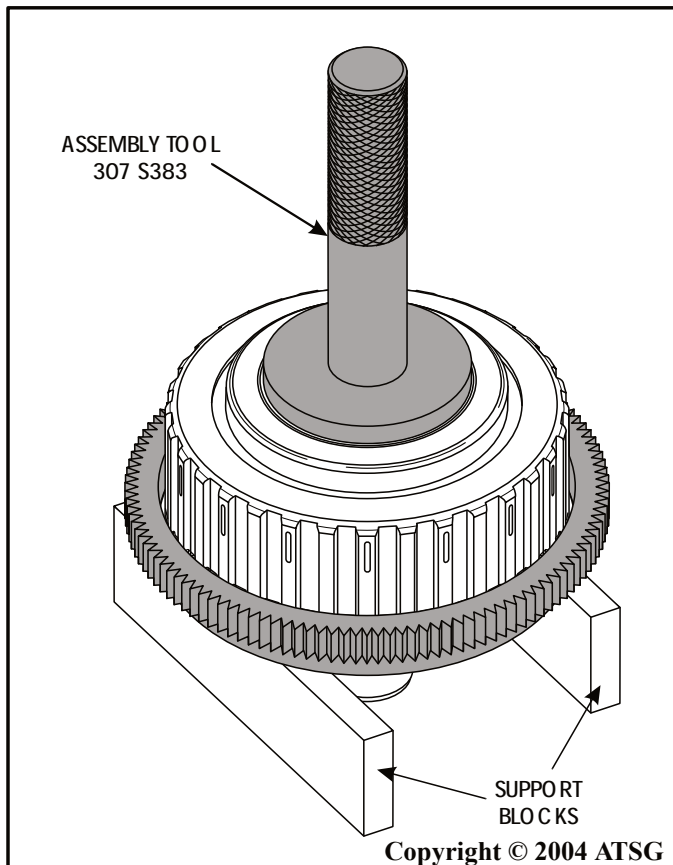

Figure 108
9. Turn the assembly over once again onto the set of blocks, as shown in Figure 108, and install the special installation tool 307-S383.